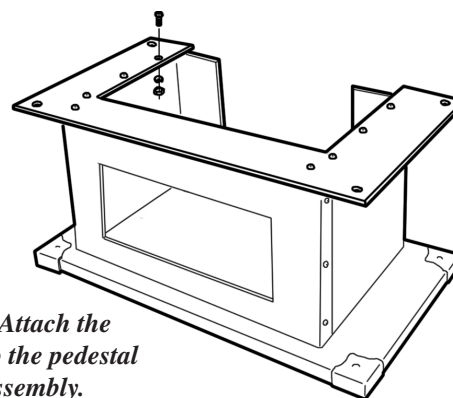

Figure 4 Attach the Top Plate to the pedestal base assembly.
6. Attach the top plate to the pedestal assembly, figure 4, with machine screws, lockwashers and hex nuts.